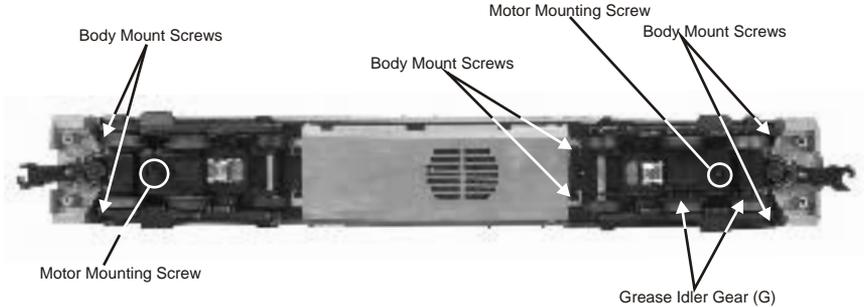

Figure 5. Body Removal Screw Locations
1. To access the gear box, remove the cab from the chassis by unscrewing the body mount screws as seen in Figure 5 and lifting the cab from the chassis.
2. Once the cab is removed, remove the trucks by unscrewing the black Phillips motor mount screw located on the underside of the drive trucks (see Fig. 5).
If you experience poor or no smoke output when the smoke unit is on and has fluid, check the wick to see if it has become hard, blackened, and unabsorbent around the heating element. After removing the locomotive body from its chassis (See Figure 5), remove the smoke unit inspection cover (see Fig 9). After removing the inspection cover screws, lift the inspection plate away and inspect the wick. If it is darkly discolored and hard, it should be replaced.